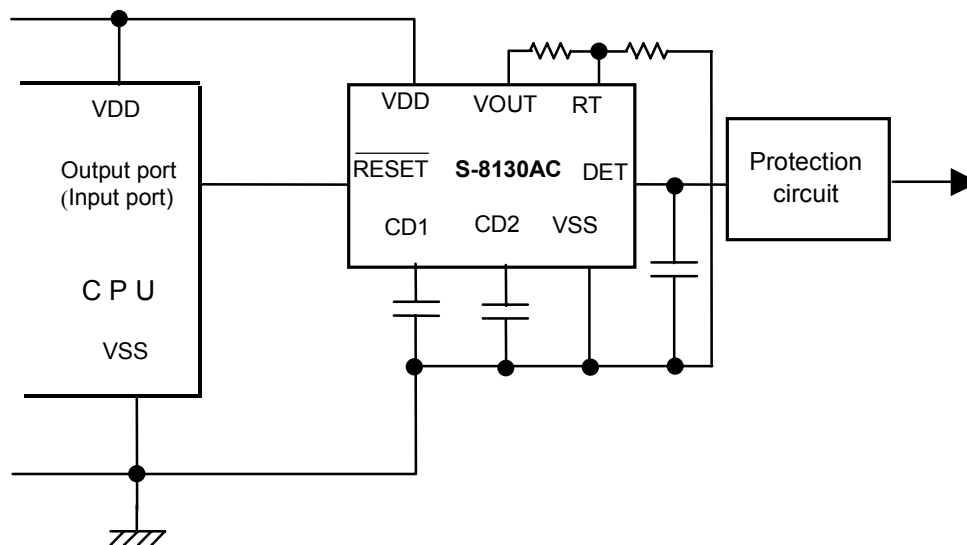

Figure 4
- (1) Since the S-8130AC has a voltage detector inside, control for the $\overline{\text{RESET}}$ pin is not necessary to activate the circuit unlike the **Figure 4**. In this case the $\overline{\text{RESET}}$ pin should be open.
- (2) Current which is provided to the resistances from the VOUT pin should be less than 1 mA.
- (3) A capacitor of around 1 μF should be connected to the DET pin to prevent malfunction caused by a noise due to the power on.
- (4) Do not apply an electrostatic discharge to this IC that exceeds the performance ratings of the built-in electrostatic protection circuit.